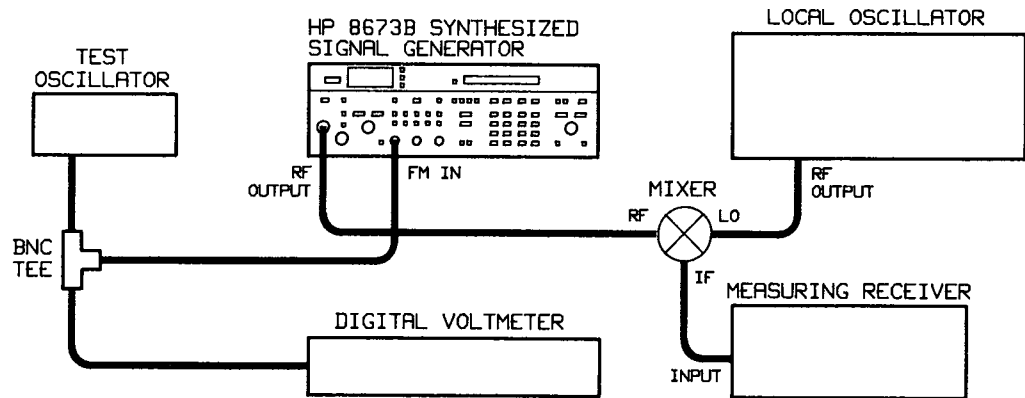

Figure 4-9. External FM Accuracy and Meter Accuracy Test Setup
- 1. Connect equipment as shown in Figure 4-9.